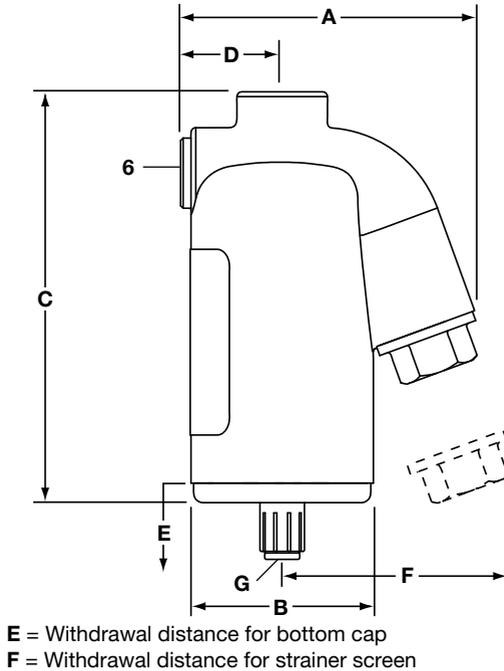

Fig. 2 Dri-line Mk2 dimensional drawing
- Adequate space should be provided around the unit to allow easy access for routine maintenance requirements (see Figure 2 for withdrawal distances).